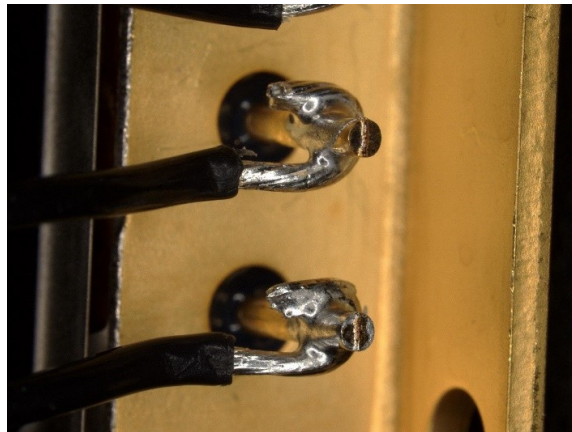

Figure 3: Side leded J-hook pin connections.
7. Side Leaded Packages (Optional). The VPT products with side leads can be attached using the same technique. The stranded wire should be pre-tinned and formed in a J-hook bend, as shown below in Figure 3.